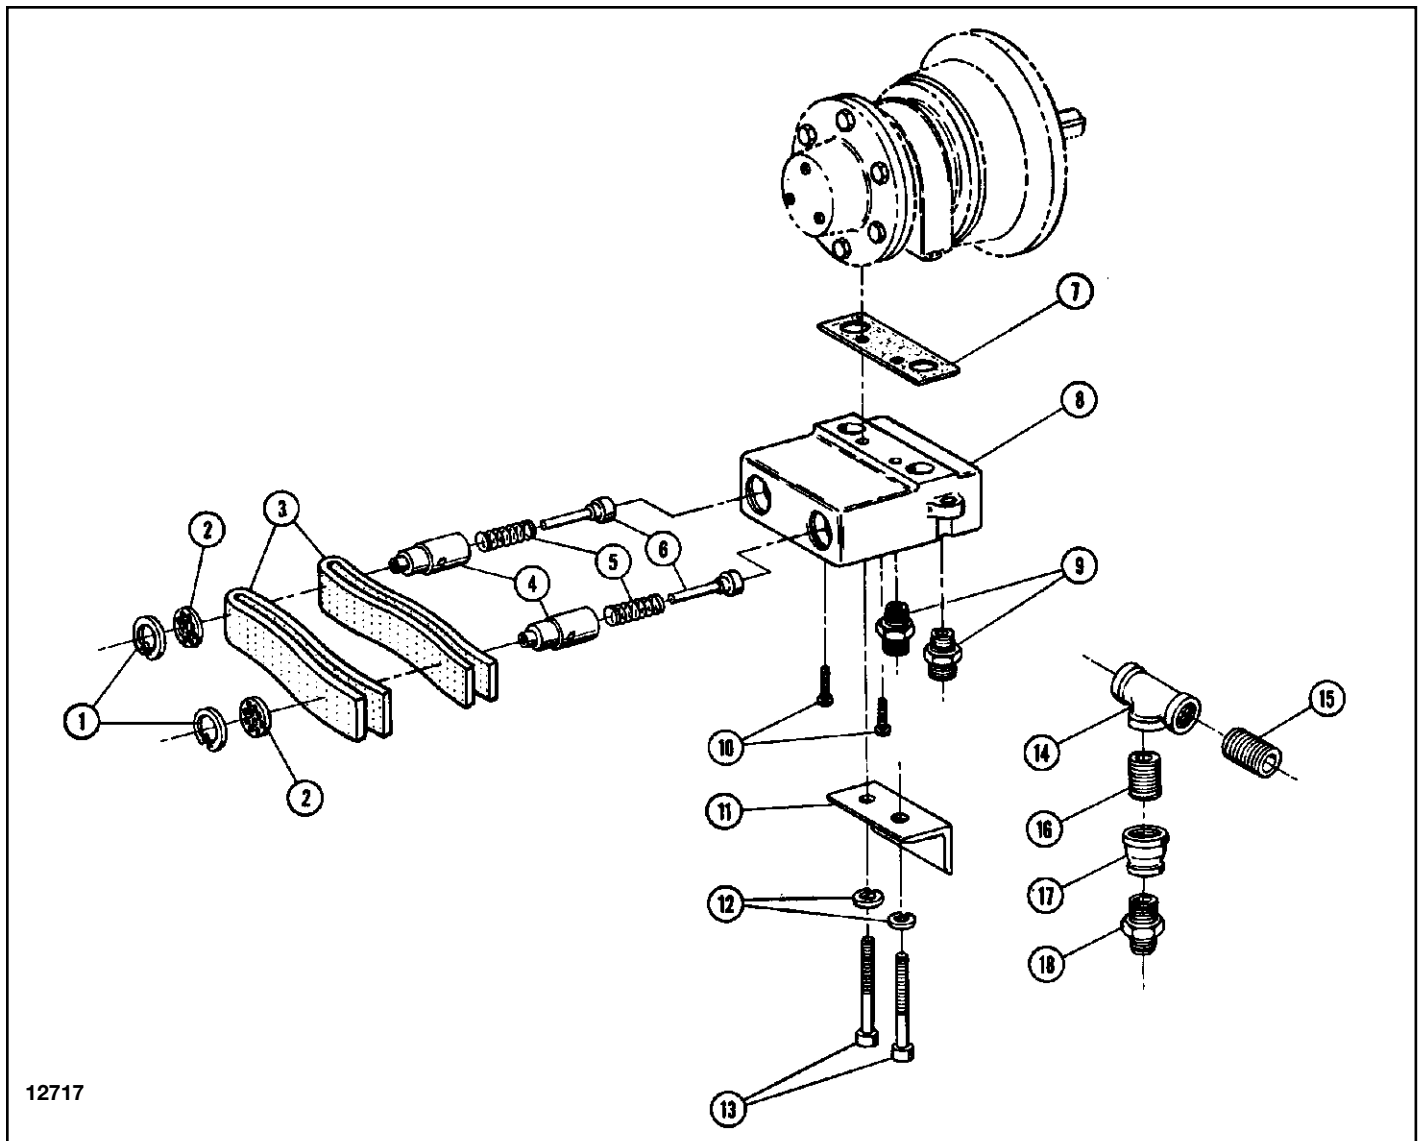

Figure 9. Supply Head Assembly
- a. Use close nipple in the elbow to attach tee as shown in Figure 9. b. Connect motor to nearest filtered and lubricated air source using 3/4" I.D. air hose attached to tee. Avoid use of hose assemblies of smaller diameters that will cause air flow restrictions and reduce bridge performance.
- (1) Before assembly, all parts should be thoroughly cleaned and inspected to determine their serviceability. Replace all parts that are worn or damaged.
- (2) Reassemble parts in reverse of the disassembly steps above.
a. Disassembly. (See Figure 9.)
- (1) Disconnect three air hoses leading to pendant throttle control assembly.
- (2) Remove two hex socket cap screws and lock-washers on side of supply head assembly and remove supply head assembly from air motor body.
- (3) To gain access to the valves, remove the retaining rings and screens. at the ports and pull out the muffling material.
- (4) Remove the two pan head screws on the side of the supply head assembly to release the valves inside the assembly.
- (5) Pull valve sleeve, spring, and stem out of the supply head assembly. Valve parts may be reached by using needle nose pliers.
b. Reassembly. (See Figure 9.)
- (2) Install valve springs and stems in sleeves and lubricate.
- (3) Slide sleeves into position in supply head (small, single hole on side of sleeves must align with retaining screws) and reinstall retaining screws.
- (4) Replace supply head gasket. Position gasket so that no portion of ports is covered.